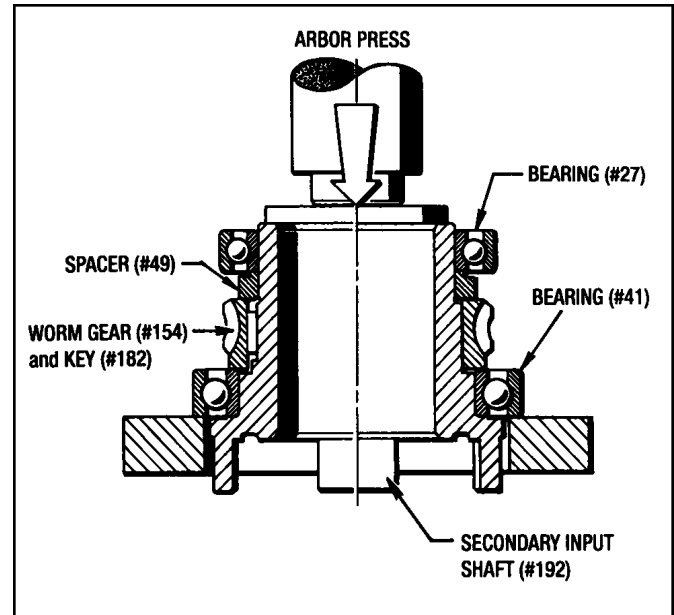

Figure 7.13 - Disassembly of Secondary Input Shaft
4. Place the Secondary Input Shaft into an Arbor Press and press Bearings (#27 and #41), Spacer (#49) and Worm Gear (#154) off of the Secondary Input Shaft (#192). (See Figure 7.13)